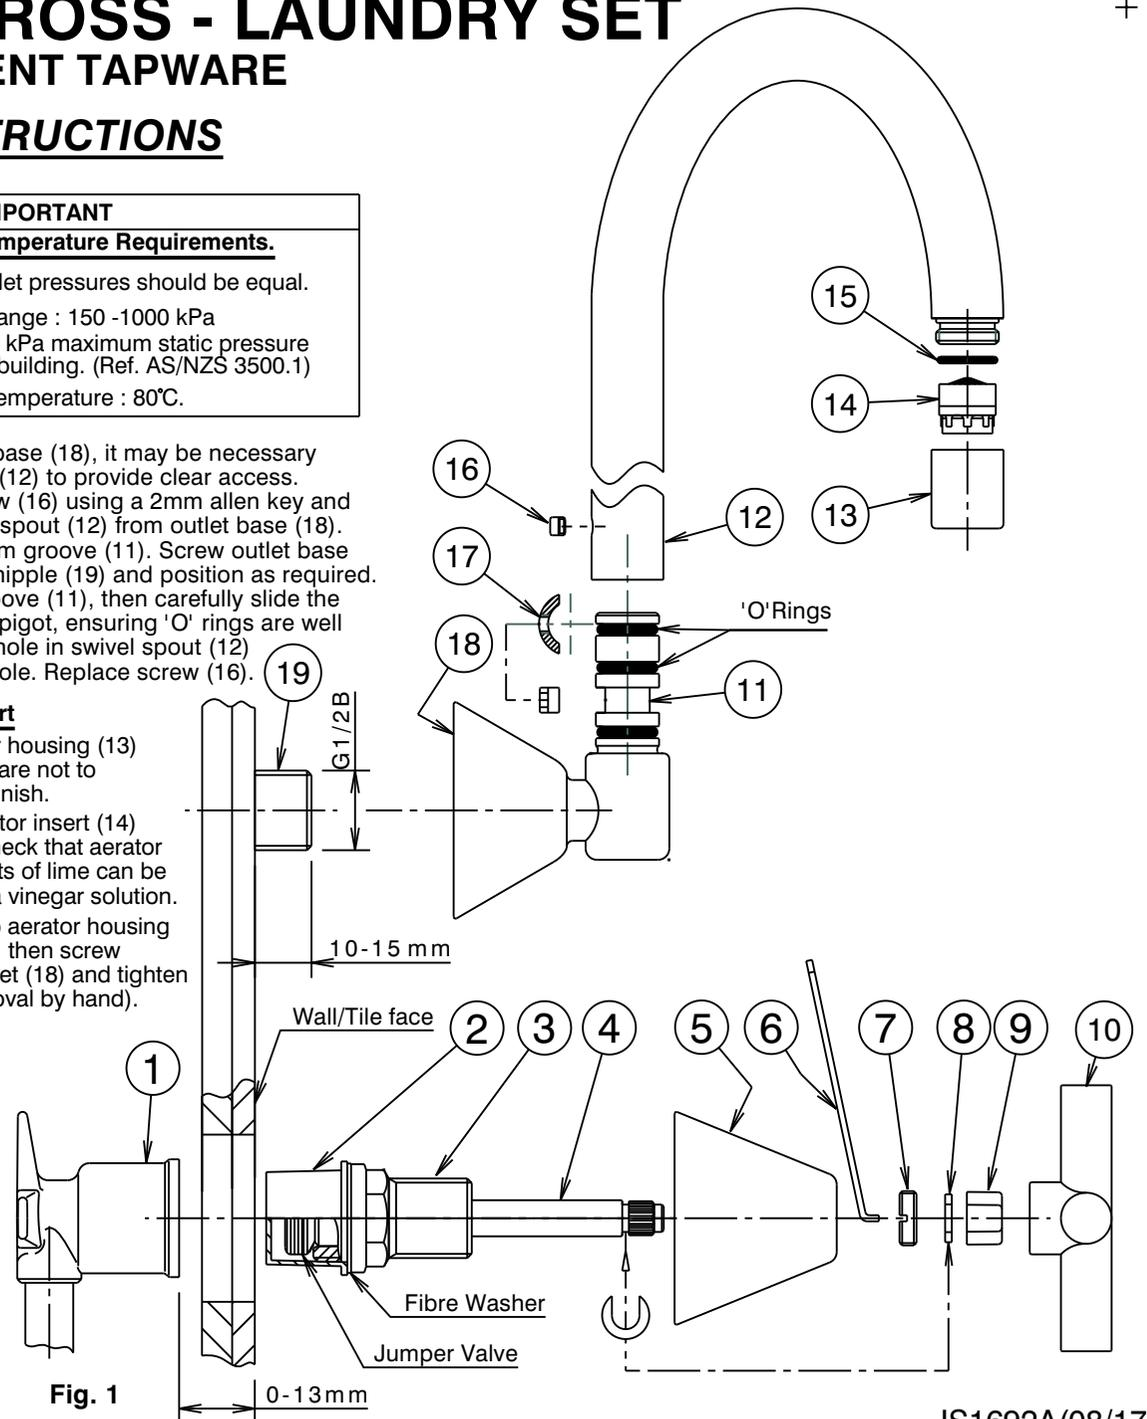

Fig. 1
- 1) Check that the face of the recess tap body (1) is 0-13mm from the wall/tile face, as shown in Fig.1.
- 2) Check seats in recess tap bodies (1) are in good condition and free of foreign materials. Reseat if required.
- 3) Remove cap (2) from tap head assembly (3). Fully open tap spindle (4) in tap head assembly (3). Ensure fibre washer and jumper valve are in position as shown.
- 4) Screw tap head assembly (3) into recess tap body (1) by hand and tighten using a suitable tube spanner.
- 5) Screw wall flange (5) over each installed tap head assembly (3), and tighten fully by hand against wall/tile face, taking care not to damage the decorative finish.
- i) Turn both spindles (4) to the fully closed position.
- ii) Place retaining nut (7) over spindle (4), with slot facing flange (5).
- iii) Place retaining clip (8) into groove at bottom of spline in spindle (4).
- iv) Ensure handle insert (9) is in position in handle (10). Fit handle (10) to spline of spindle, position to suit then push firmly onto spindle until it bottoms internally. Screw retaining nut (7) into handle and tighten with spanner (6) provided.
- 7) Check that threaded nipple (19) is the correct length, as shown (Fig.1). Cut to length if required ensuring end face is square. Apply thread tape to the thread.